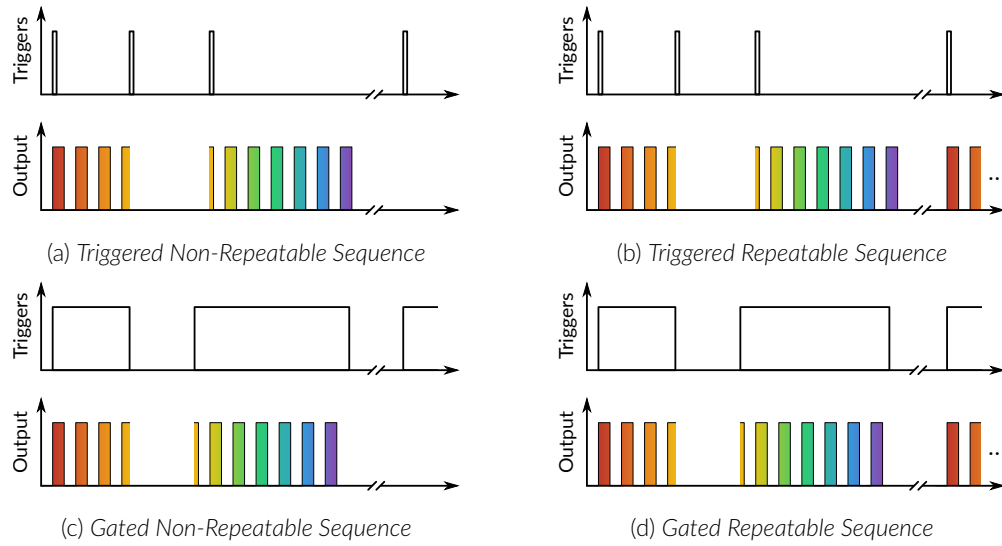

Figure 3.4: Pause Sequence Mode
- **Pause:** This mode activates the channel sequence when a rising edge greater than 3.3 V is detected on the BNC input (Fig. 3.4). Following input pulses (when *Triggered*, Fig. 3.4a) or falling edge (when *Gated*, Fig. 3.4c) will pause the sequence and the sequence will continue when the next rising edge is received. When the **Repeatable sequence** checkbox is checked, the sequence will restart with the arrival of the first input pulse after the sequence has finished (Figs. 3.4b and 3.4d).